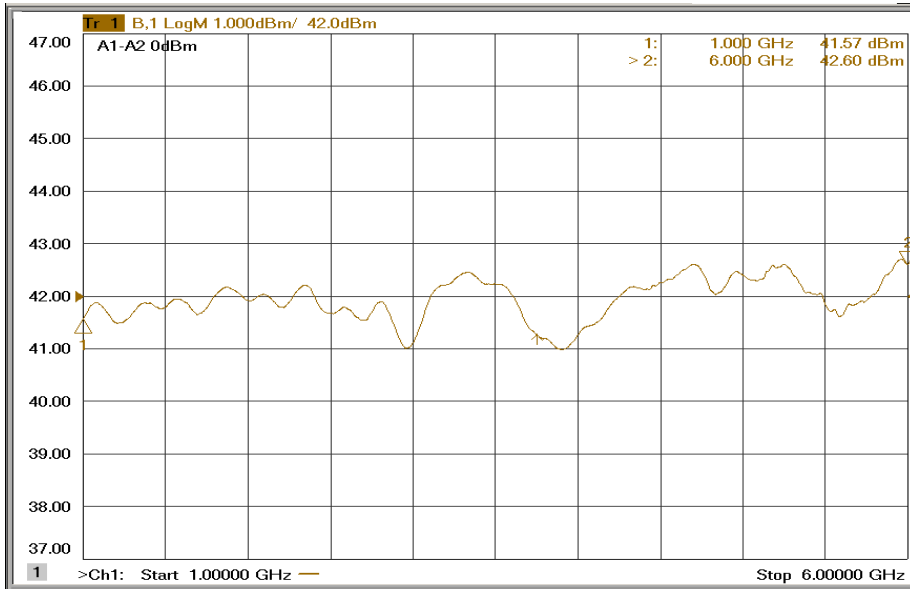

Figure 4-5. Typical A1 Pre-Amp and A2 Quad Amp Driver Response
4. The Typical response for the A Pre-Amp and A2 Quad Amp Driver is shown in Figure 4-5.